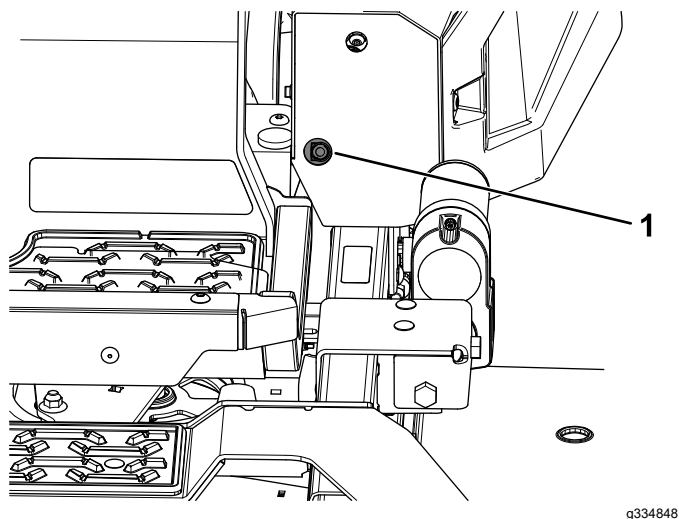
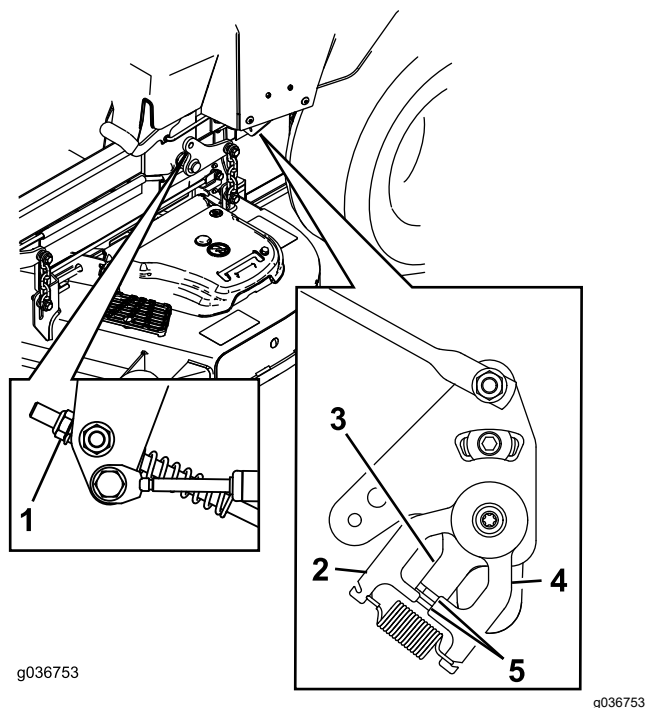

Figure 67
Figure 68
11. Adjust the pump-control-rod lengths by rotating the nut in the appropriate direction until the wheels slightly creep in reverse (Figure 67 and Figure 68).